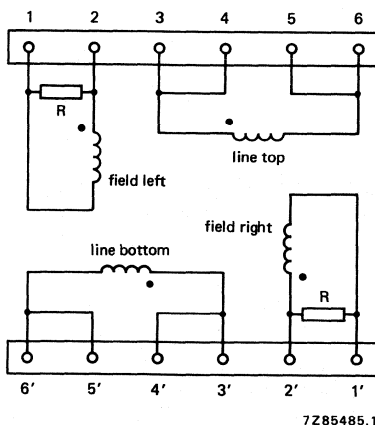
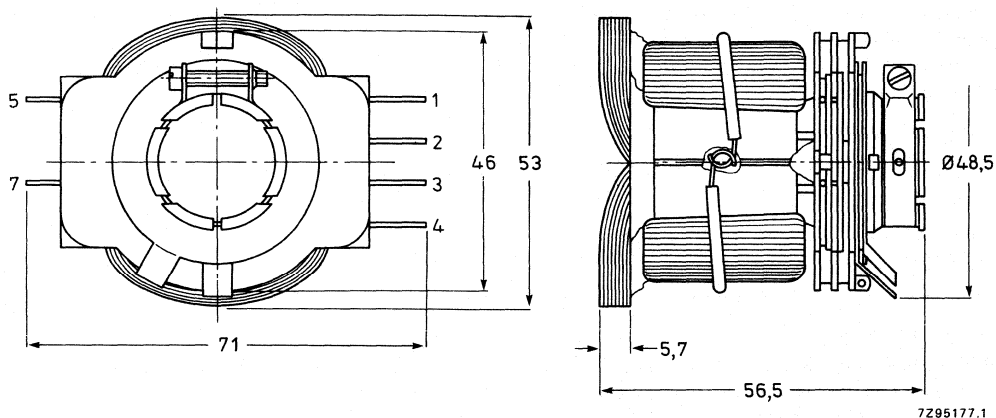

Fig. 2 Diagram of line and field coils; R = 270  $\Omega$ . The beginning of the windings is indicated with ●.
Fig. 1 Deflection unit AT1077/01.
If a further improvement of raster geometry is required use can be made of correction magnets\*, which must be fitted to mounting posts (1). The unit has solder pins for connection. The pin numbering in Fig. 1 corresponds to that in Fig. 2.
The unit is provided with solder pins for connection. The pin numbering in Fig. 1 corresponds to that in the diagram (Fig. 2).
**Line deflection coils**, series connected (Fig. 2), terminals 1 and 4